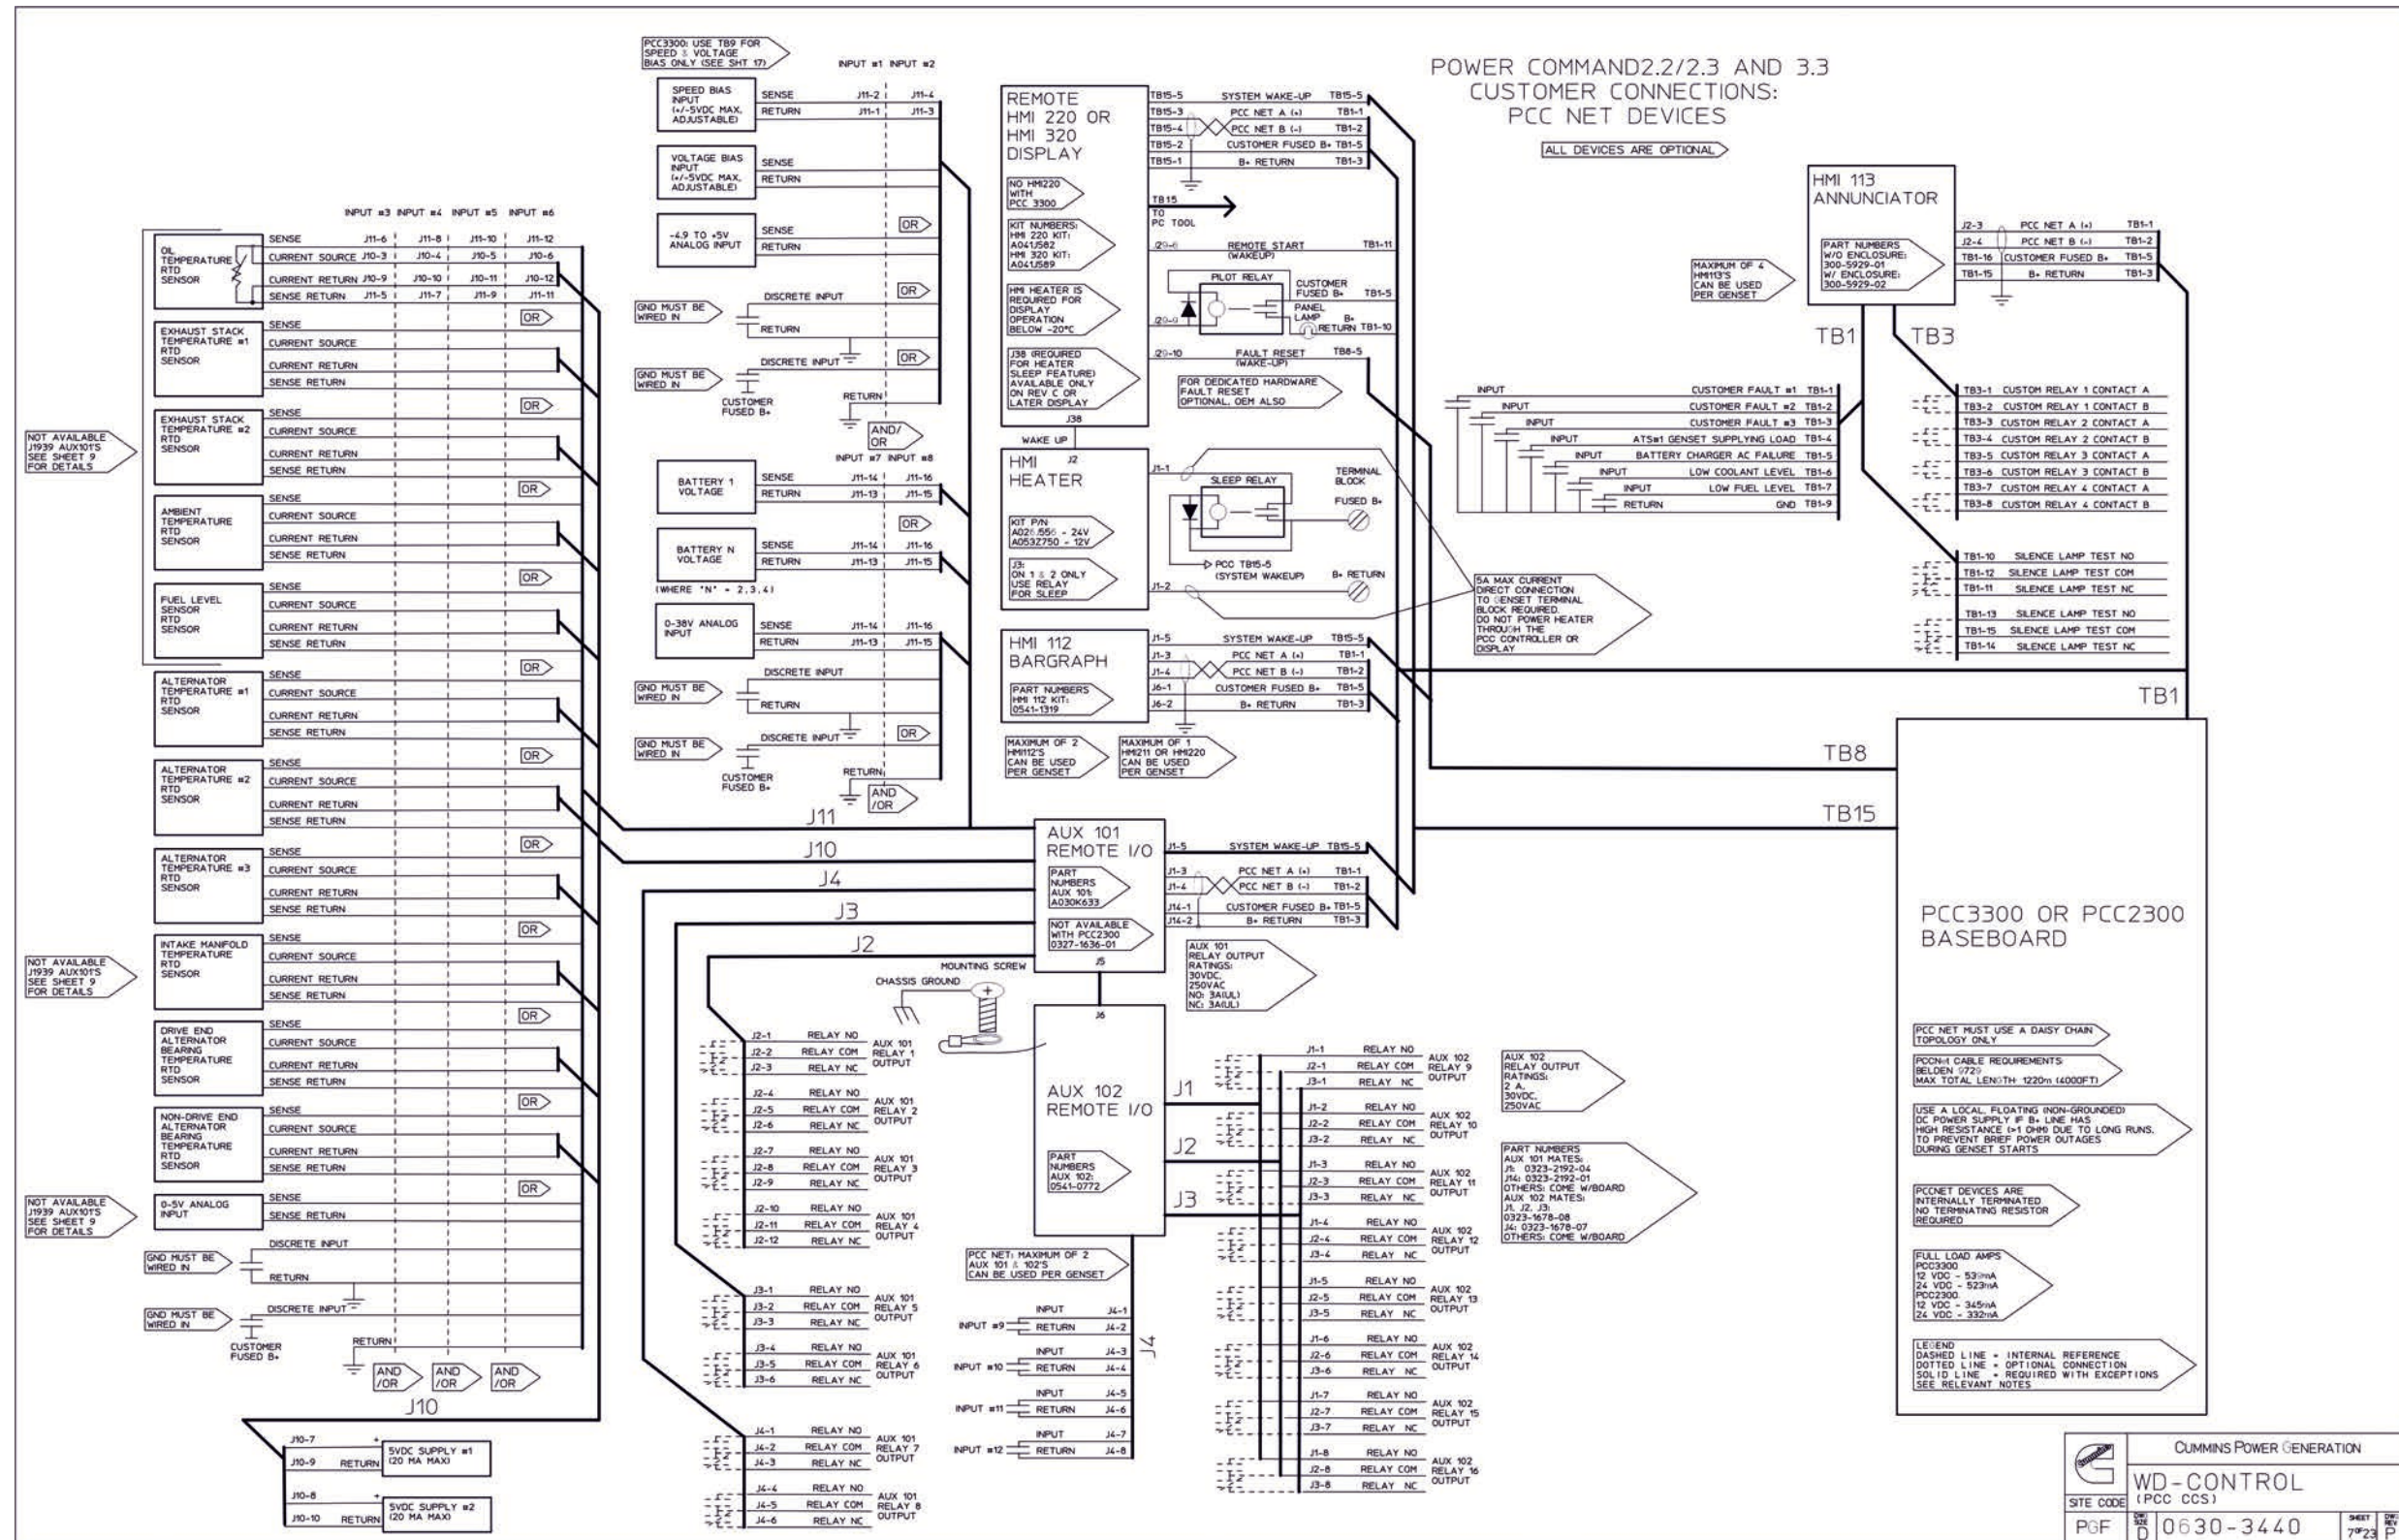

FIGURE 72. PCCNET DEVICE CONNECTION
- Figure 72. PCCNET Device Connection 448